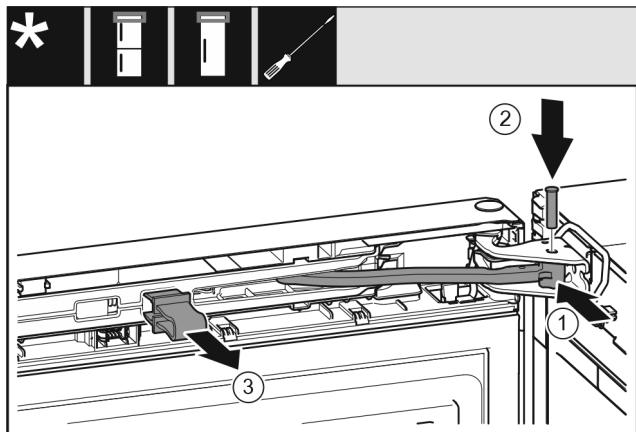

Fig. 25
- ▶ Turn the hinge in the bearing bracket. Fig. 25 (1)
- ▶ Insert the bolt in the bearing bracket and hinge. Make sure that the latching lug is sitting correctly in the groove. Fig. 25 (2)
- ▶ Remove the locking device. Fig. 25 (3)